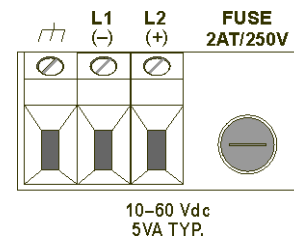

Figure 2.4: Low Voltage Power Inlet
**Option 04** inlet supply includes an inlet range of 10 to 60 V DC ONLY and terminal power strip with surge withstand protect circuitry (illustrated in Figure 2.4)